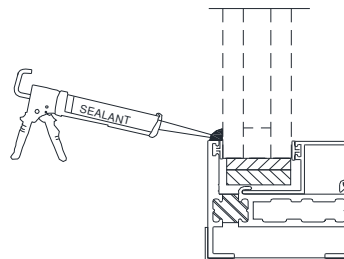

Figure 16:
2. After glazing, apply a continuous bead of sealant to the frame and glass (Figure 16).